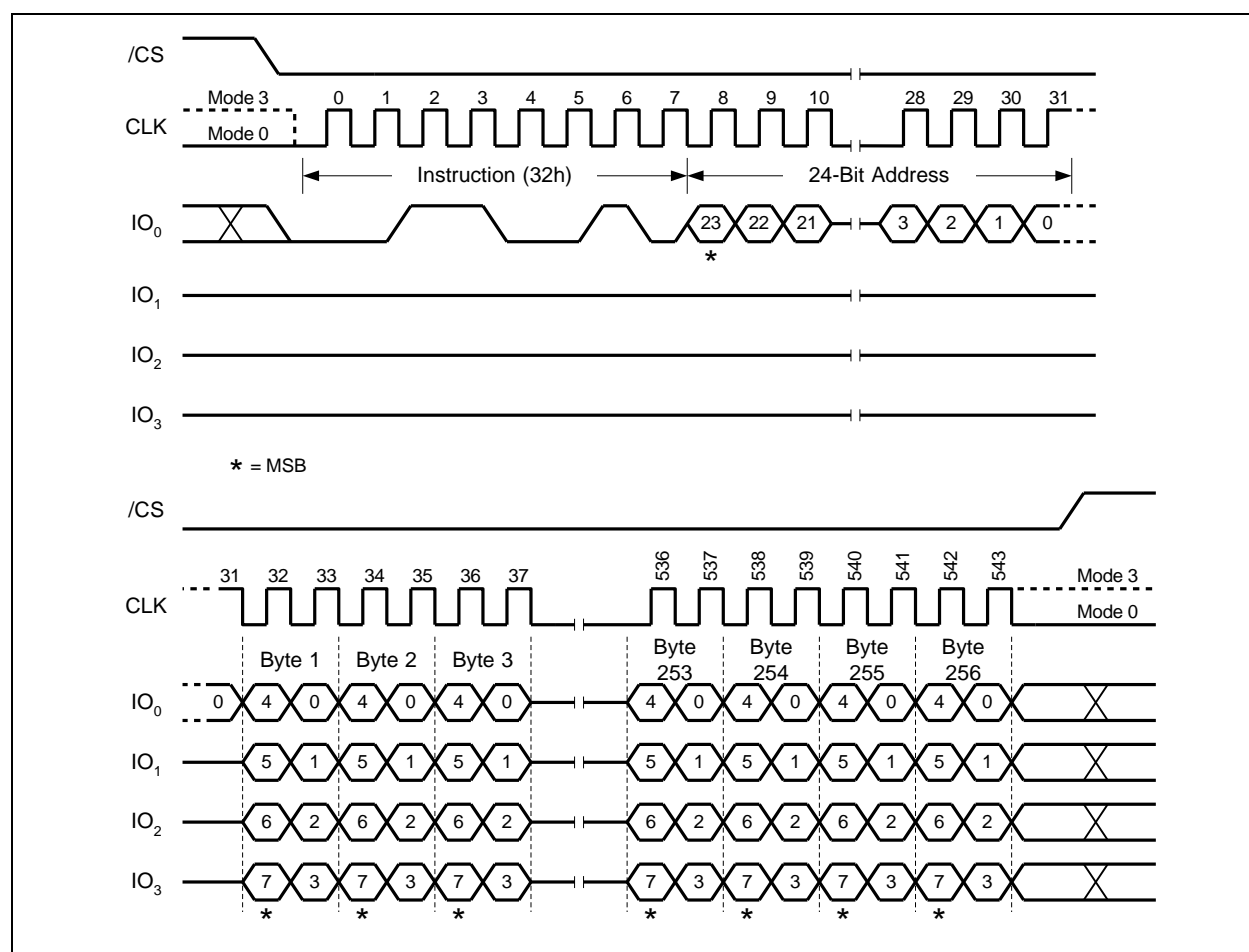

Figure 30. Quad Input Page Program Instruction
To use Quad Page Program the Quad Enable (QE) bit in Status Register-2 must be set to 1. A Write Enable instruction must be executed before the device will accept the Quad Page Program instruction (Status Register-1, WEL=1). The instruction is initiated by driving the /CS pin low then shifting the instruction code "32h" followed by a 24/32-bit address (A23/A31-A0) and at least one data byte, into the IO pins. The /CS pin must be held low for the entire length of the instruction while data is being sent to the device. All other functions of Quad Page Program are identical to standard Page Program. The Quad Page Program instruction sequence is shown in Figure 30.